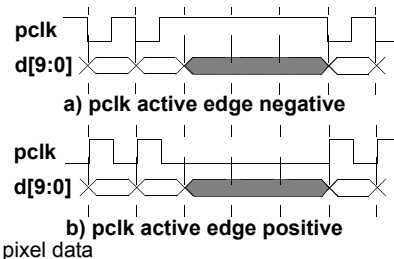

Figure 42. pclk in Data Ready Mode
- In data ready mode, (the *PixClkMode* bit of DVBUSCONFIG1 register is set to a logic 1), the pixel clock output pin **pclk** will produce a pulse with a specified level every time valid pixel data appears on the digital video bus **d[9:0]** as shown in Figure 42.